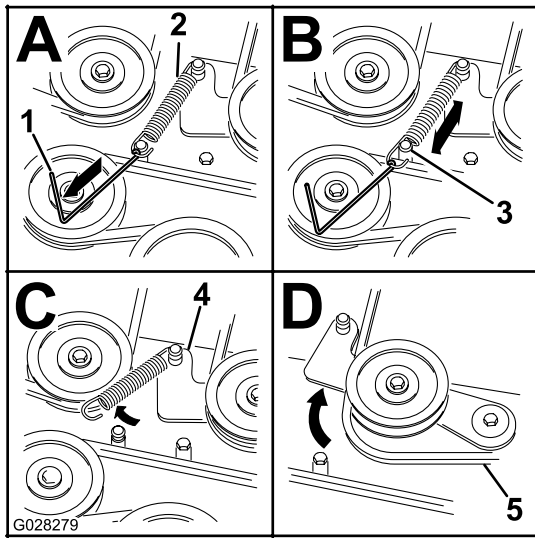

Figure 67
- Using a spring removal tool, (Toro Part No. 92-5771), remove the idler spring from the deck post to remove tension on the idler pulley (Figure 67).
- Install the new belt around the mower pulleys and the clutch pulley under the engine (Figure 67).
- Using a spring-removal tool, (Toro Part No. 92-5771), install the idler spring over the deck post and placing tension on the idler pulley and mower belt (Figure 67).